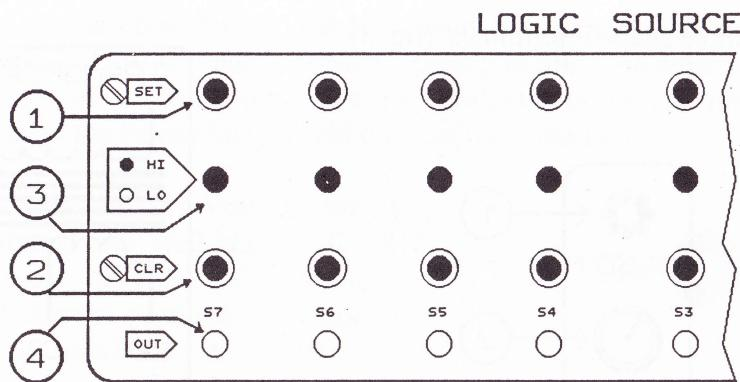

Figure 4
The LOGIC SOURCE (array of 8 logic switches) deserve special reference since the invention of a technique, involved herewith, provided the impetus for the launching of MICROLAB. The technique is the use of unstrained phosphor bronze integrated leaf switches. The electronic circuit following the switch not only debounces it but is so environment friendly that it modifies itself on overload due to wrong connection. It is so sensitive that a touch by hand or a metal object to the output terminal may change its state. If user is not able to set or reset a particular bit it is a warning that there is a wrong connection at this point. Conventional switches, however costly, need at least 10% replacement after a semester of laboratory work. This has been the experience of technicians in Computer Sc. & Engg. Dept of IIT, Kharagpur. And then they used these leaf switches. Not a single switch has gone bad since 1984 after their regular experiments in the hardware laboratory. The SET buttons(1), CLeaR buttons(2), status indicators(3) and the OUTput terminals(4) are shown in fig. 4.